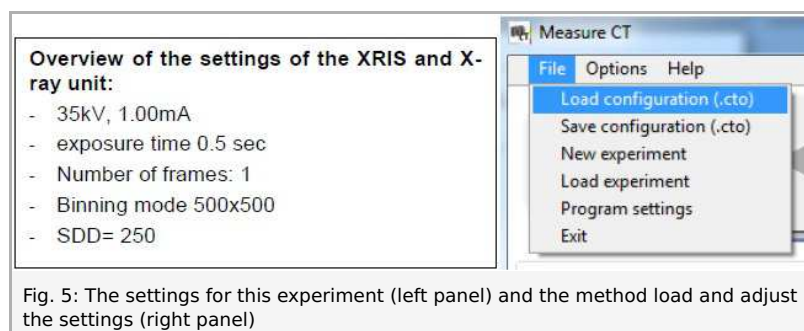

Fig. 5: The settings for this experiment (left panel) and the method load and adjust the settings (right panel)
- Adjust the XRIS settings and X-ray unit settings according to Fig. 5 or load the configuration from the predefined CTO file 'Experiment 3' (see Fig. 5).